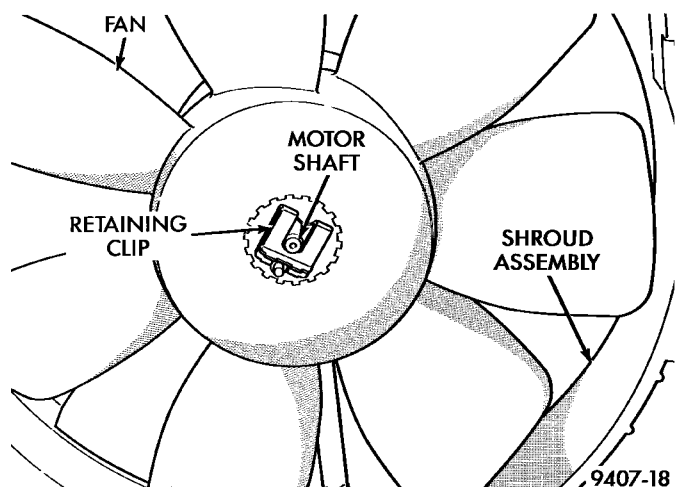

Fig. 25 Servicing Radiator Fan
(1) To remove fan from motor shaft, bench support the motor and motor shaft, while removing the fan retaining clip, so that the shaft and motor will not be damaged by excessive force. **Surface burr removal may be required to remove fan from motor shaft (Fig. 25).** Do not permit the fan blades to touch the bench.
(2) To install fan on motor shaft, slide the fan over shaft. Support motor and shaft as above while installing fan retaining clip.